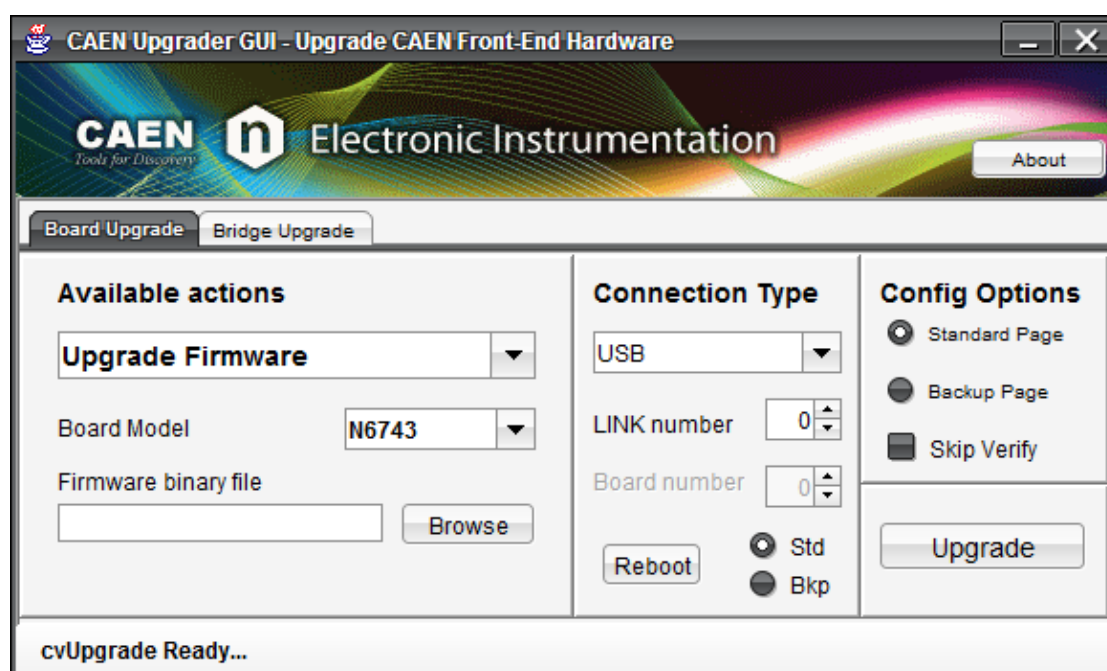

Fig. 9.2: CAENUpgrader Graphical User Interface
- Force the board to reboot loading the copy of the firmware stored on the BKP page of the FLASH. For this purpose, the Reboot option in CAENUpgrader software tool (see **Fig. 9.2**).